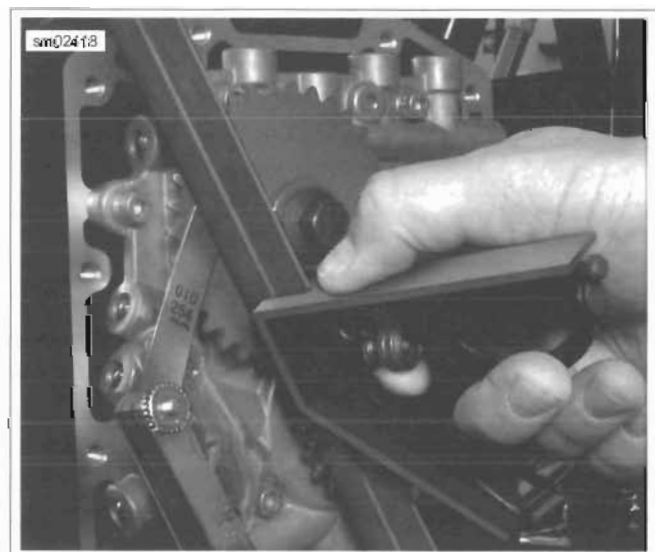

Figure 3-113. Check Alignment of Crank and Rear Cam Sprocket Faces
- f. See Figure 3-113. Place a straightedge across the sprocket faces. Attempt to insert a 0.010 in. (0.254 mm) feeler gauge between the straightedge and each sprocket face. If the feeler gauge will not fit at either location, sprocket offset is within specification. Remove both sprockets and discard temporary small washer.